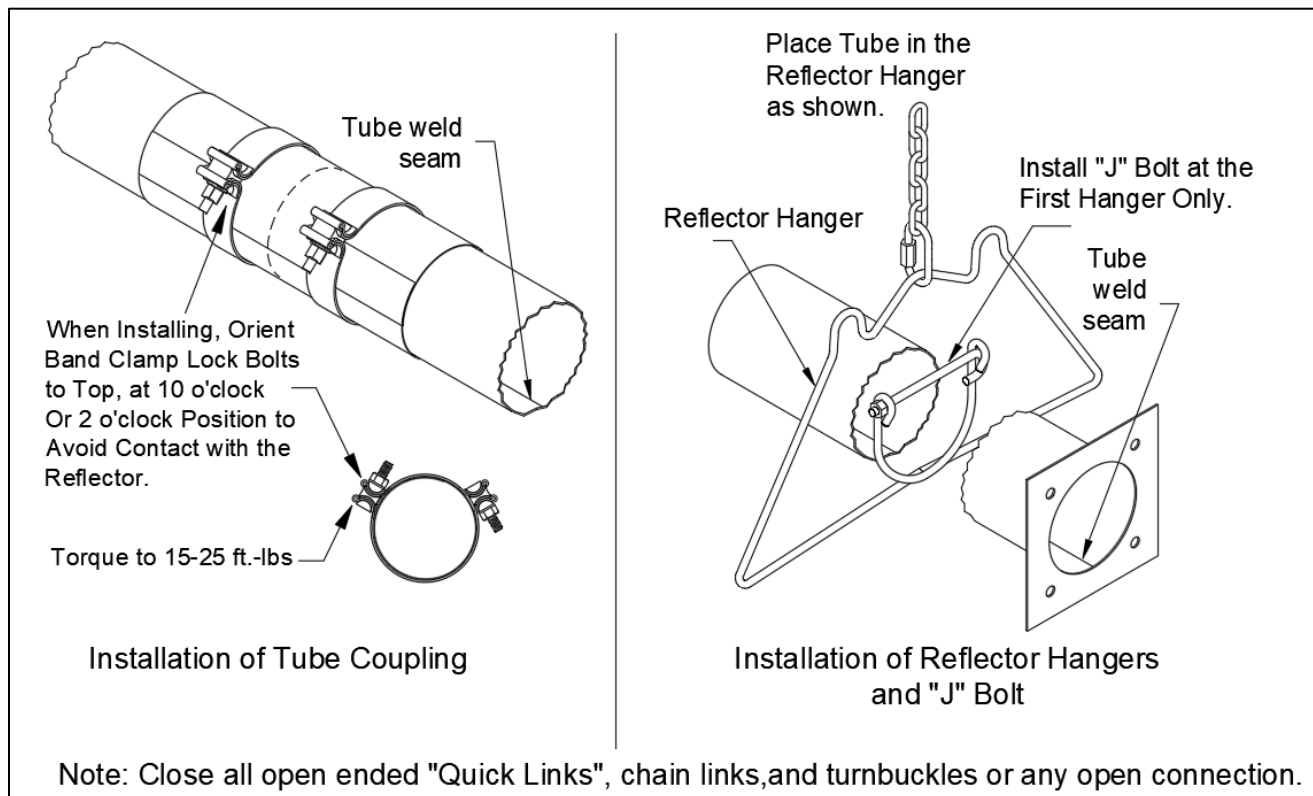

Figure 8: “J” Bolt and Coupling Installations
- Tighten the cradle loops of the first hanger with the “J” Bolt found in the burner box, to snugly hold the combustion tube from rotating see Figure 8.
**Note:** In order to obtain smoothly sealed coupling liners, tighten each of the coupling bands progressively and alternately. Tightening one band completely before the other may result in an undesirable wrinkle in the liner (refer to Figure 8). **Be sure not to over torque the coupling. (Torque coupling to 15-25 lbf-ft).**